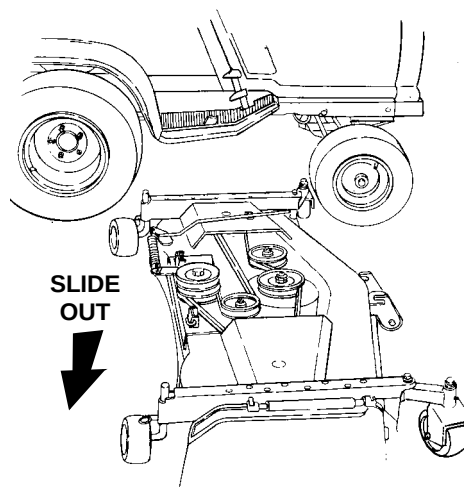

Figure 50
11. With the tractor implement lift handle raised to its highest setting, slide the deck to the right and out from under the tractor (Refer to Figure 50).